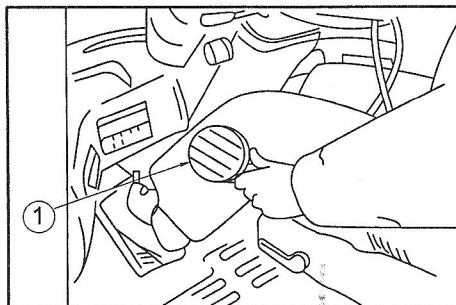

Fig. 05-28
(1) Fix the force-gauge (1) onto the operator's foot (See Fig. 05-28).